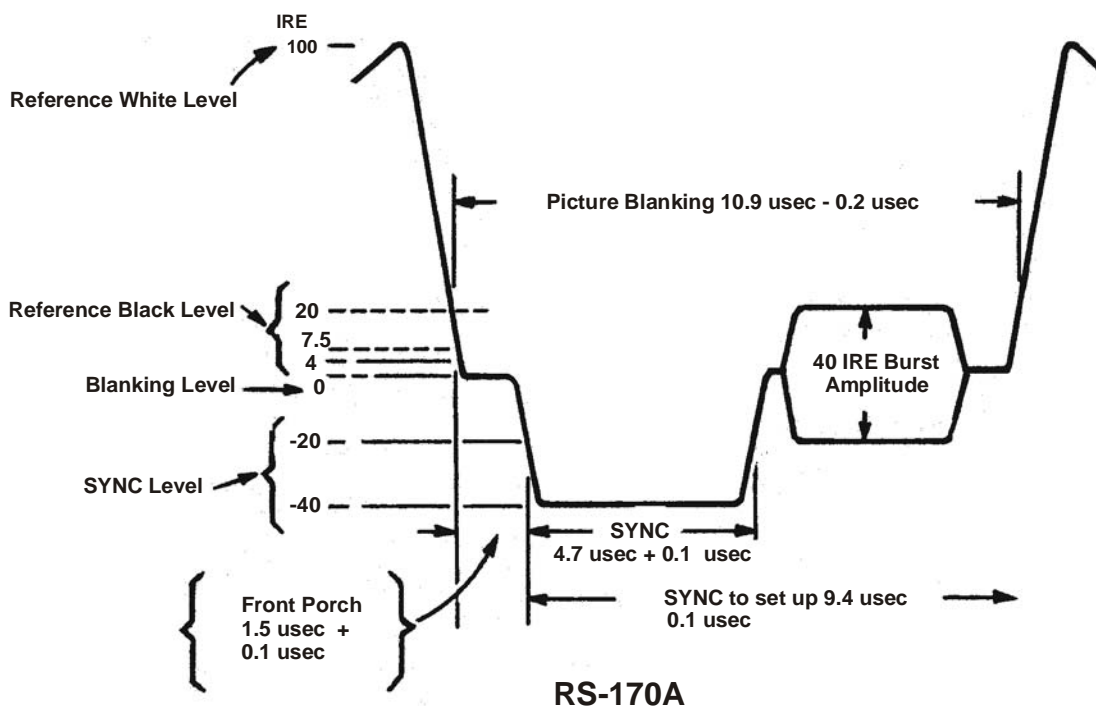

Figure H-7. Horizontal Interval
c. The reference level from which all amplitude values are measured is the blanking level (See Figure H-7). It is assigned the zero value on the IRE scale. Peak or reference white is measured in the positive direction from blanking and is assigned the value of 100 IRE. The maximum level that active video should achieve at continuous or transitional peaks is 100 IRE. Anything above this level is termed "hot video."
d. Setup or reference black level is assigned the value of 7.5 IRE (See Figure H-7). Reference black level (7.5 IRE) is the minimum level at which active video is adjusted. When active video appears dark or washed out, it is a good indication that the black level probably needs adjusting.
e. Other key elements of the composite video signal that require your attention are the sync and color burst signals (See Figure H-7).